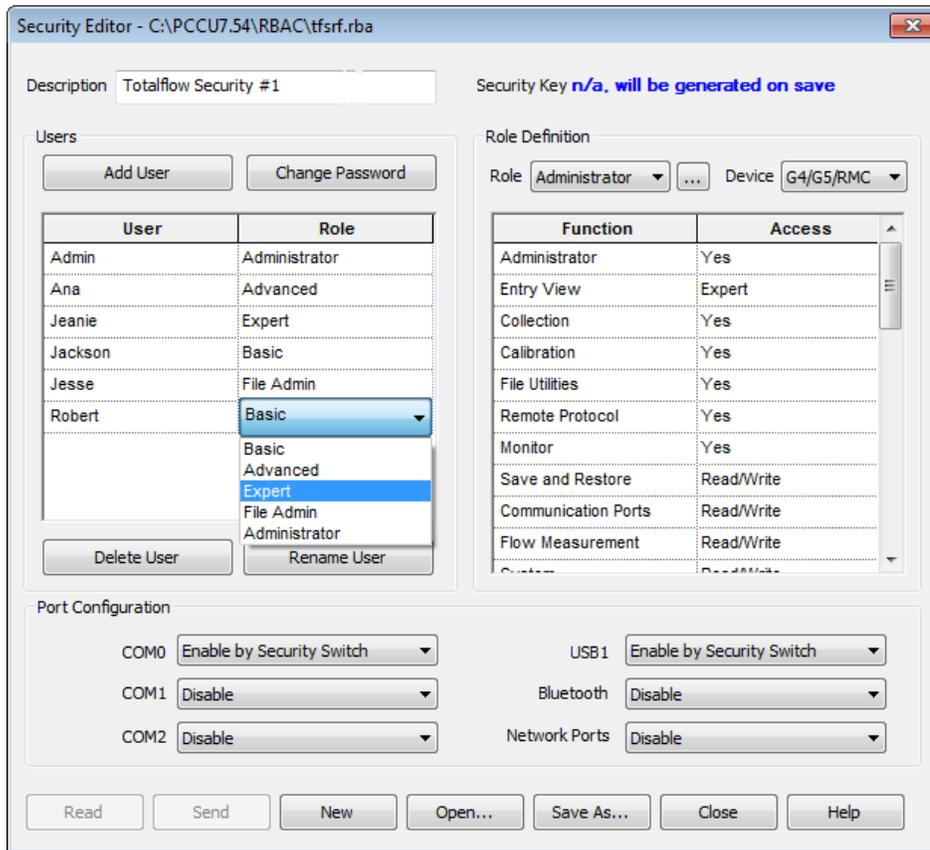

Figure 50: User role assignment
4. Click the **Role** beside the new user account and assign the appropriate role (Figure 50).